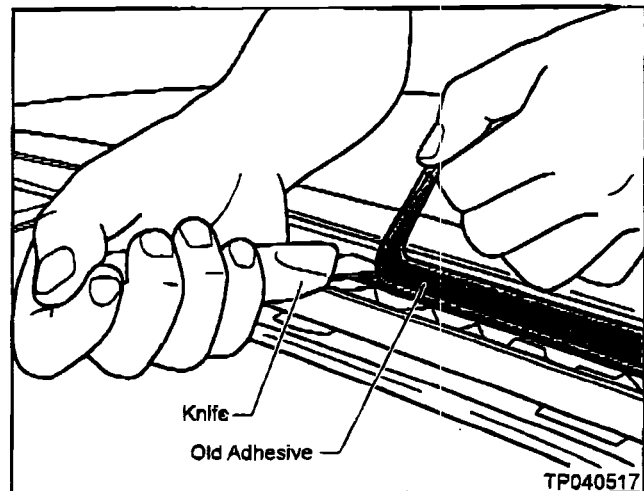

Figure 6
7. Trim the original adhesive to be nearly flush with the vehicle body (see Figure 6).